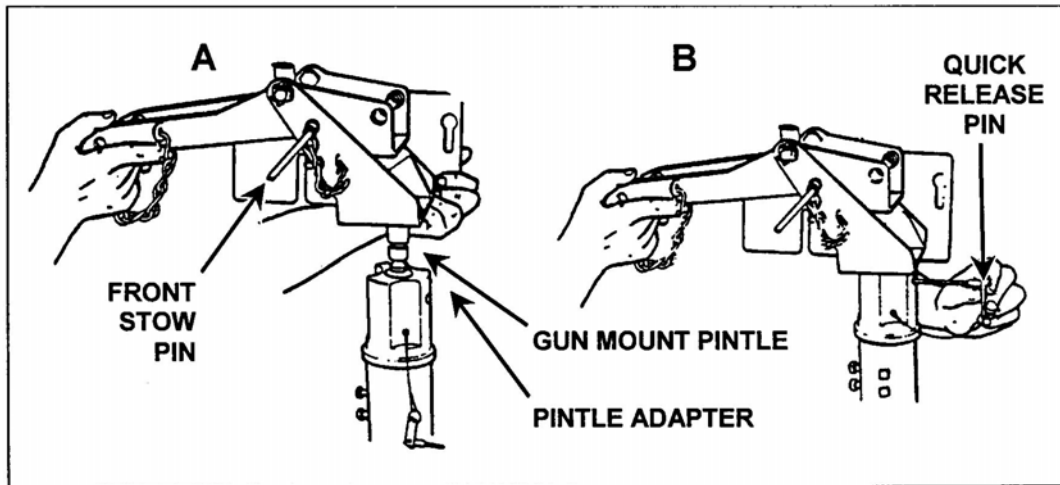

Figure 4. Mounting the MK64 Gun Mount
2. Mount the MK64 gun mount (Figure 4).